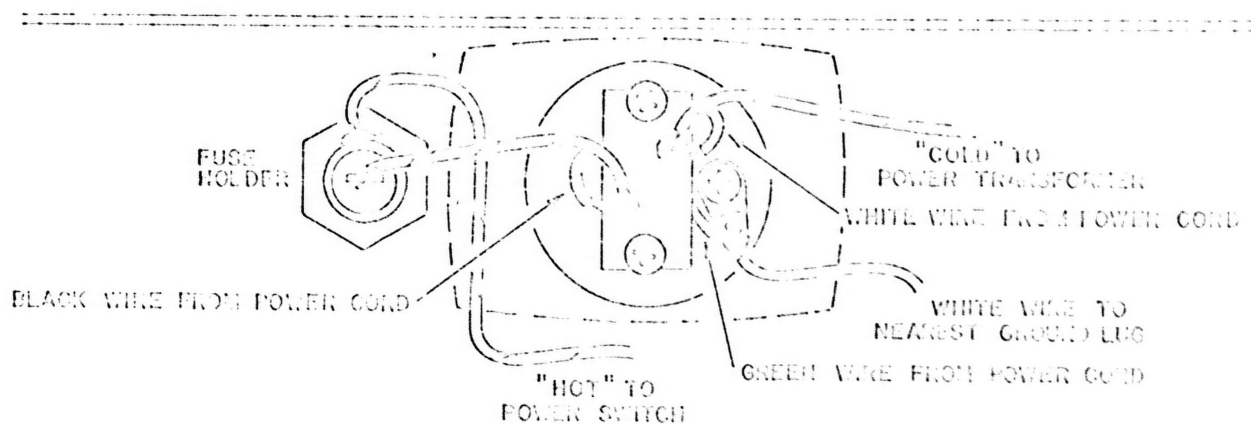

FIG. 1
A. TO INSTALL ATTACHED POWER CORD: Refer to Fig. 1